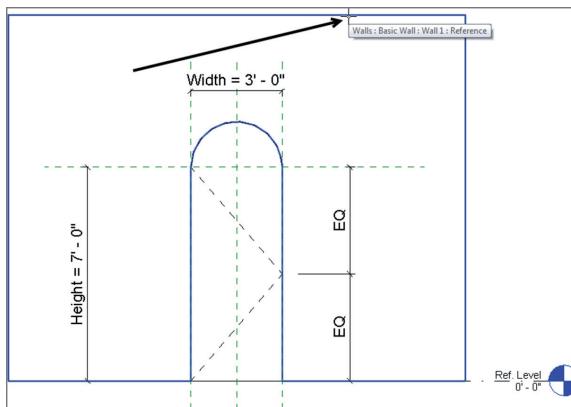

FIGURE BC2.17: Setting the Reference Plane to the face of the wall
5. Pick the face of the wall, as shown in Figure BC2.17.